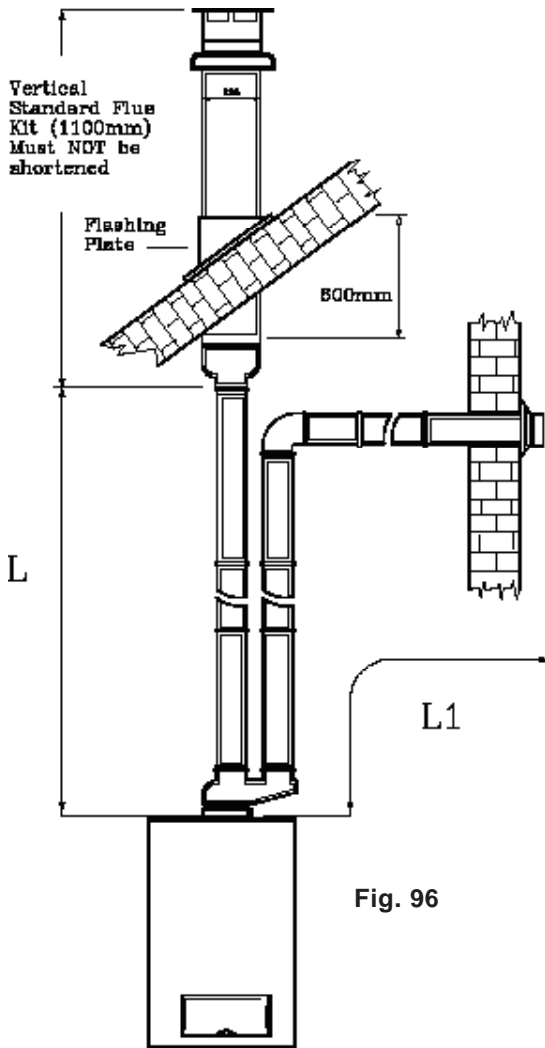

Fig. 96
11.1.2 Exhaust/suction system with two separate rated 80 dia. Pipes - exhaust on flat or sloping roof, suction from vertical wall (Fig.96).